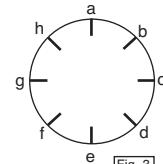

Fig. 3
- Fix the seal into position applying uniform load to diametrically opposite bolts / studs - (see fig. 3).
- Uniformly tighten the screws associated with the seal drive clamp (see fig. 3).